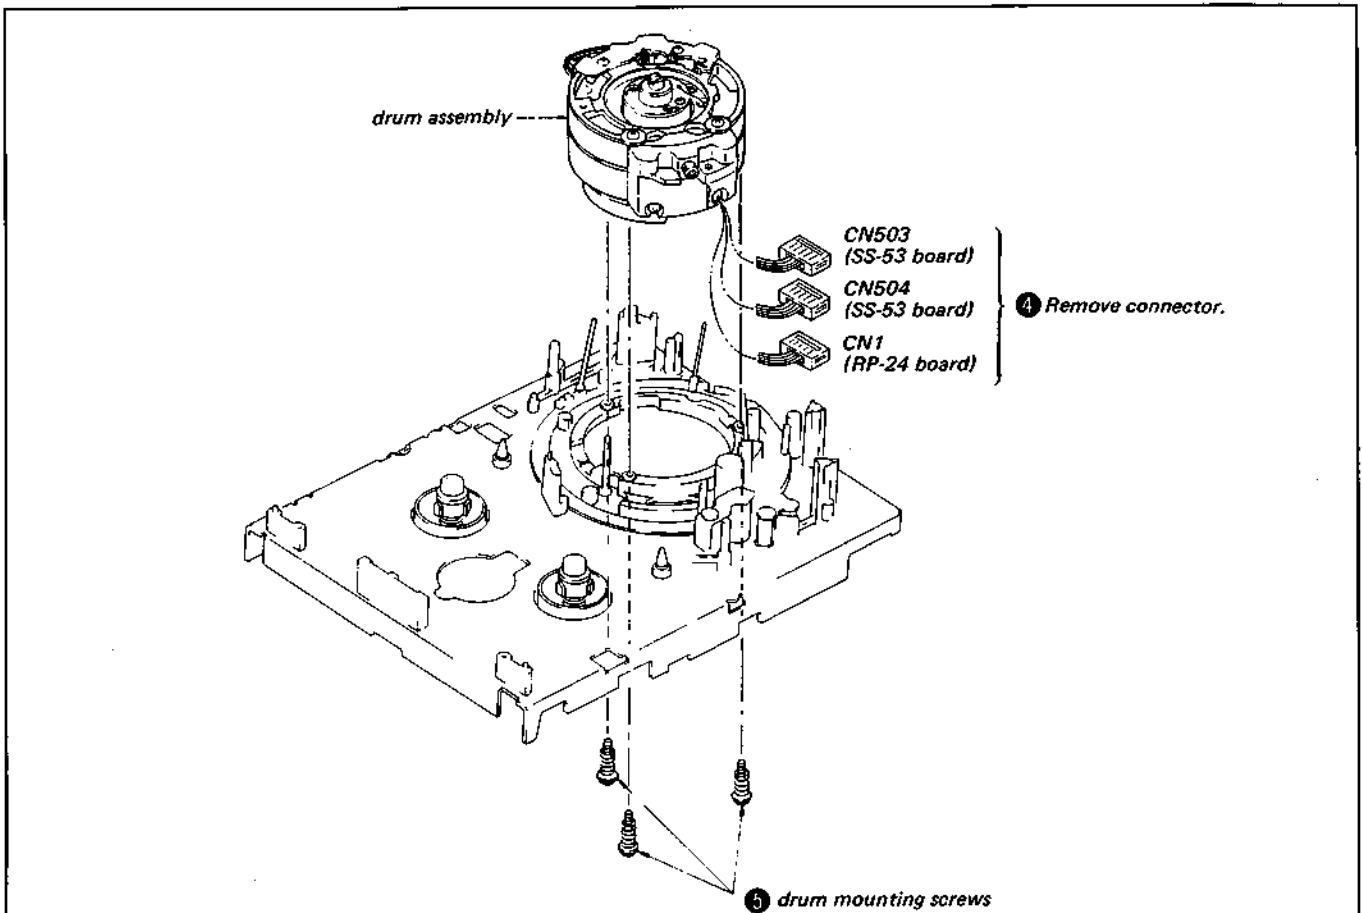

Fig. 3-8. Removal of the drum assembly
- ④ Remove the 3 connectors from the rear of the chassis as shown in Fig. 3-8.
- ⑤ Remove the 3 drum mounting screws from the rear of the chassis, then remove the main body of the drum assembly. After the replacement has been completed, adjust the drum path.